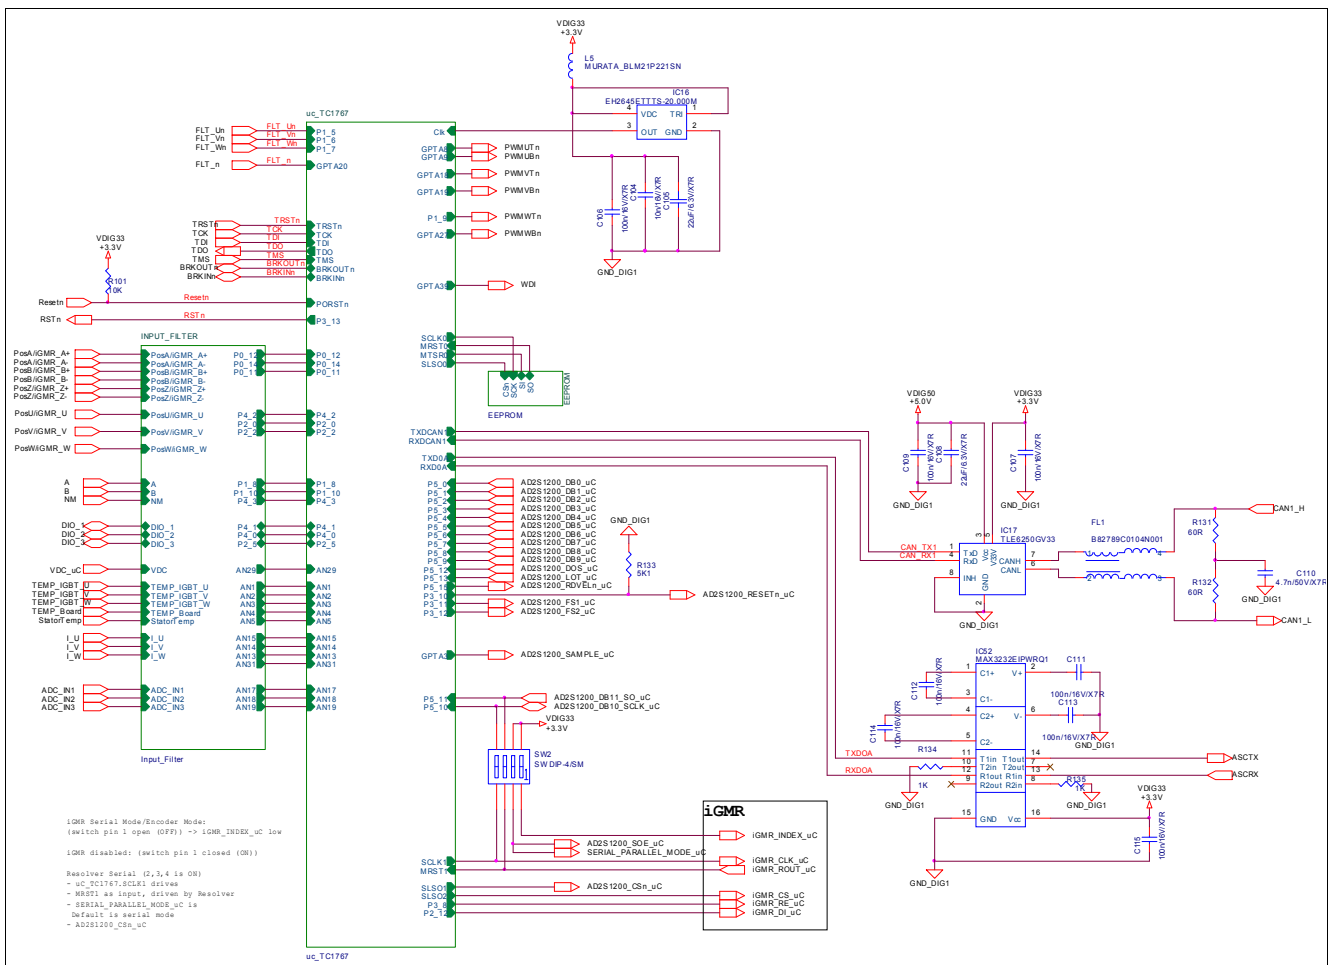

Figure 65 Microcontroller
- RS-232 & CAN Transceivers (see Figure 65)
DIP-4 switch (SW2 on Figure 65) is used to select serial/parallel interface for the communication with resolver or iGMR position sensor - please refer to Table 7.